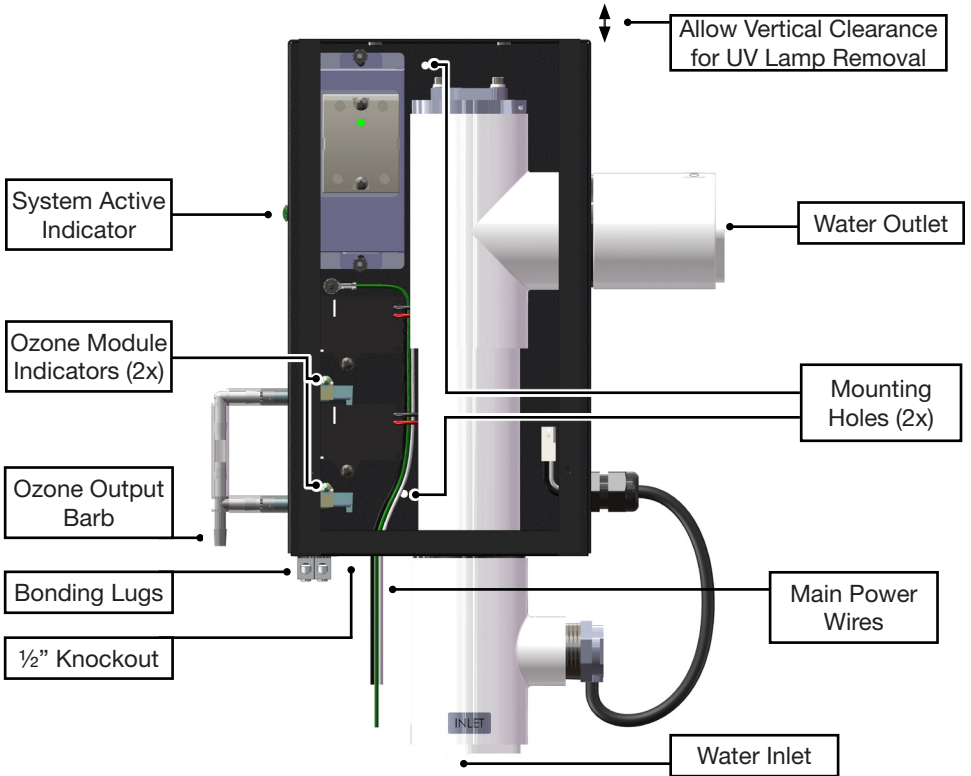

Figure 1: Mounting (cover removed)
- The unit must be installed in an outdoor location, or indoors in a forced air ventilated room, and installed so that the orientation is exactly as shown in **Figure 1** (see page 2).
Mount in a clean, protected area, either indoors or outdoors (preferably out of direct sunlight). Locate out of reach of sprinklers or drainage spouts. Mount in the orientation shown in **Figure 1**, using the two mounting holes provided inside the enclosure. Allow sufficient clearance in front for internal access, and above for service of the UV Lamp and Quartz Tube (13 inches). The SEC-50 should be installed at least one (1) foot above the maximum water level. See Section **2C-3. Check Valve Assembly**, for plumbing instructions based on mounting location.
2. Refer to **Figure 1** to mark the locations for the two mounting screws.